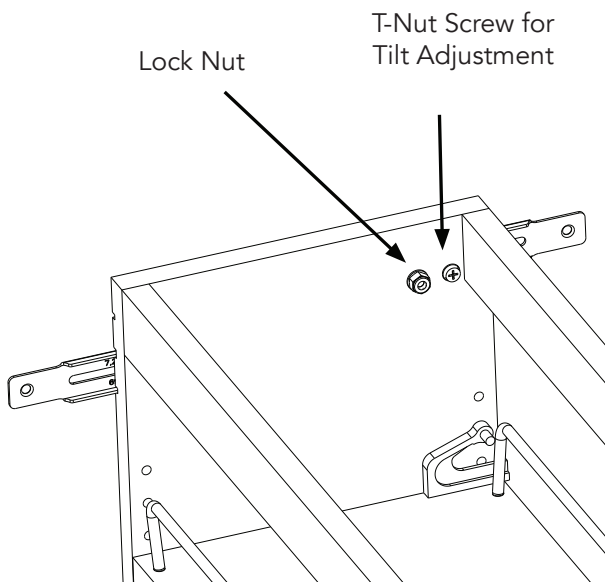

Fig 1
- 1) Loosen the (4) lock nuts (3/8" wrench) inside the front wall of the unit. (See Fig 1)
- 3) Use the (4) #6 x 1/2" flat head screws provided to attach the door to the pullout unit.